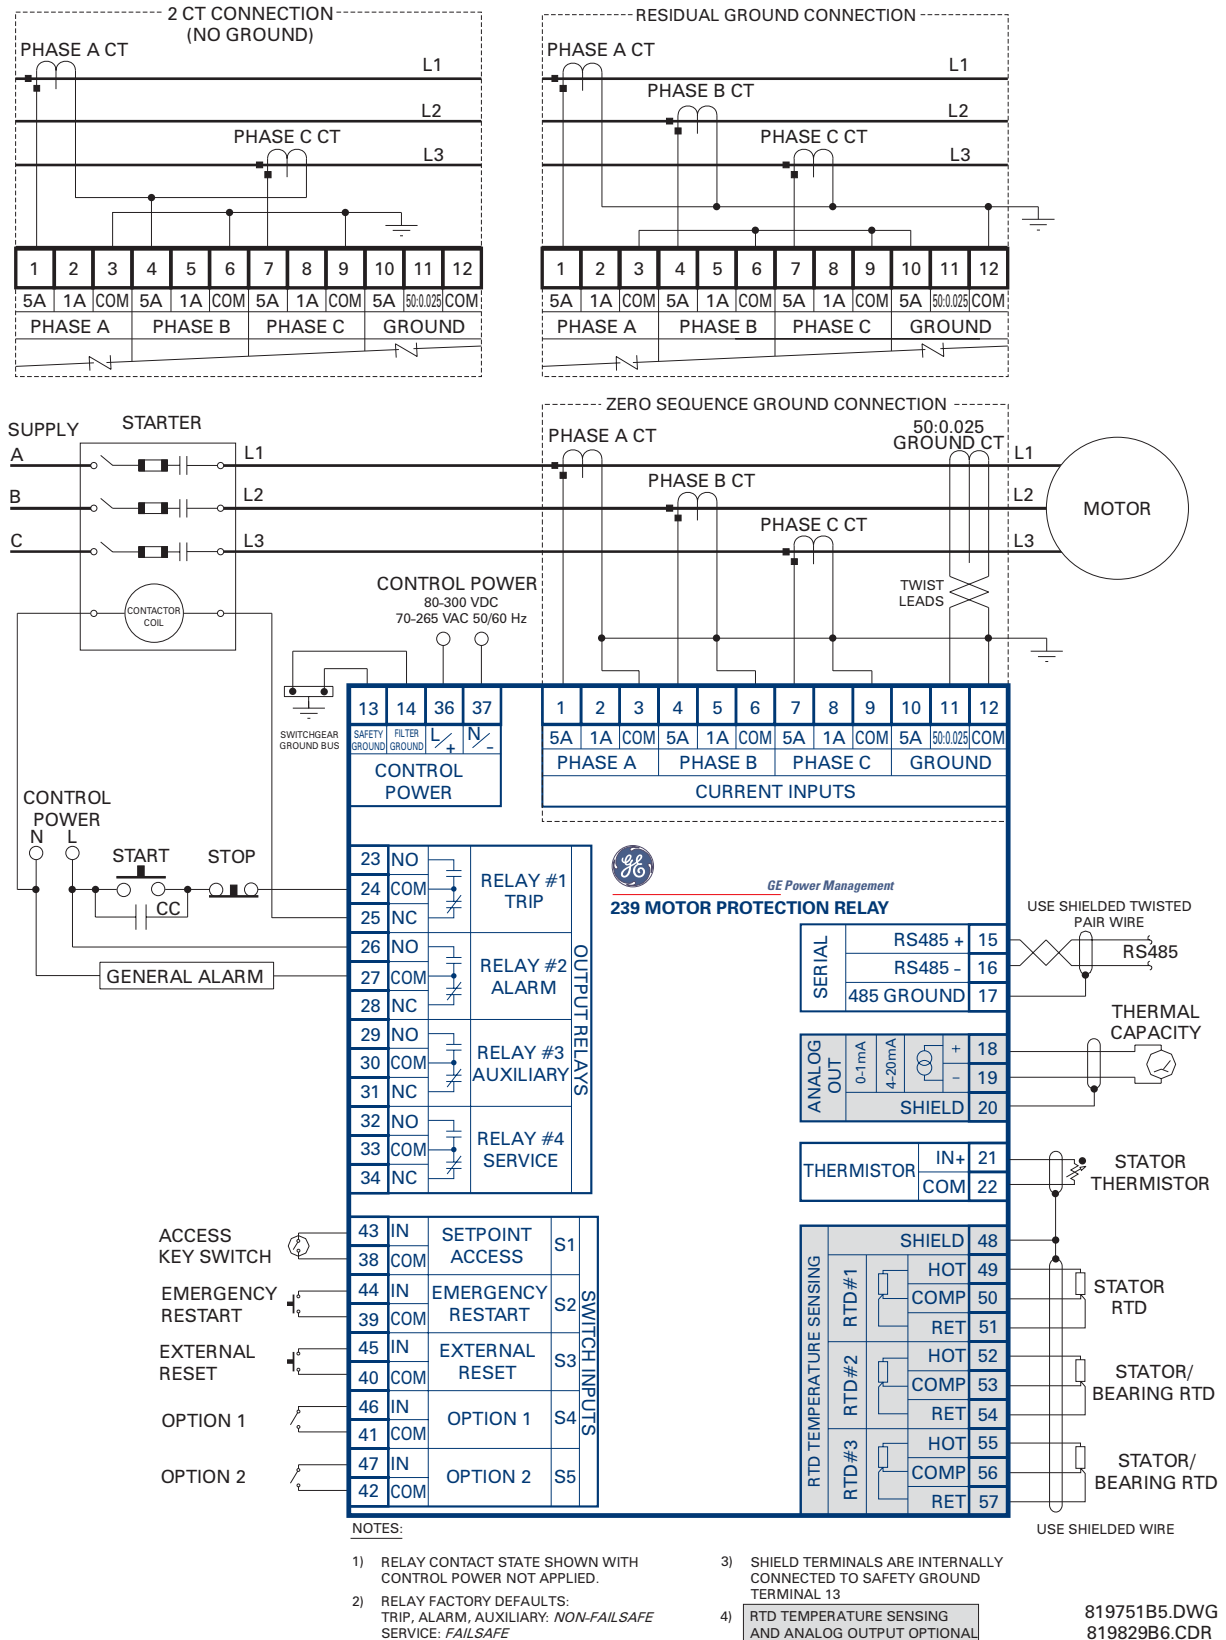

FIGURE 2-3: Typical Wiring Diagram
Signal wiring is to box terminals that can accommodate wire as large as 12 gauge. CT connections are made using #8 screw ring terminals that can accept wire as large as 8 gauge (see FIGURE 2-3: *Typical Wiring Diagram* on page 2-18). A minimal configuration will include connections for control power, phase CTs and the trip relay. Other features can be wired as required. Considerations for wiring each feature are given in the sections that follow.
There are 4 output relays each with form C contacts (normally open (NO), normally closed (NC), and common (COM)). Contact ratings for each relay are identical and are listed in Section 1.2: Specifications. FIGURE 2-3: *Typical Wiring Diagram* on page 2-18 shows the state of the relay contacts with no control power applied; that is, the relays are not energized. Relay contact wiring will depend on how the relay operation is programmed in **S3:OUTPUT RELAYS** (see Section 4.4: S3: Output Relays on page -24).
the relay is energized and the NO/COM terminals shown in FIGURE 2-3: *Typical Wiring Diagram* on page 2-18 are closed. Connect these relay contacts to a suitable signaling input of a DCS system.